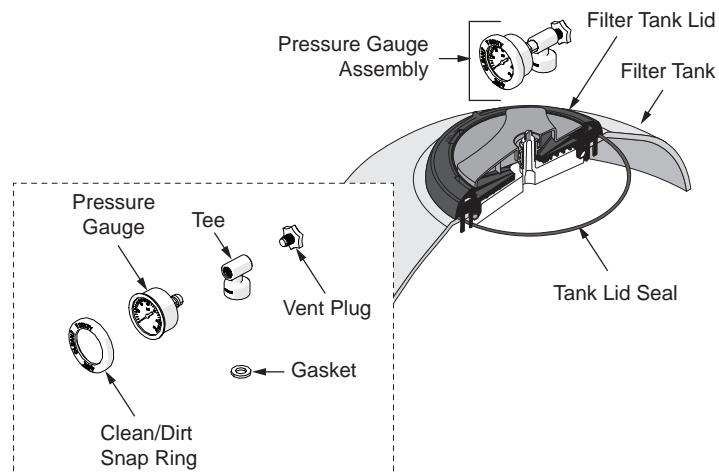

Figure 5. Lid and Pressure Gauge Installation
Ensure that the O-ring is completely clean and lubricated with a non-petroleum based lubricant. Before subjecting the filter to pressure, ensure that the handle is revolved as tightly as possible so that a good seal is achieved. See Figure 5.
4. Check that the lid is correctly seated and tight. See **Figure 5**.